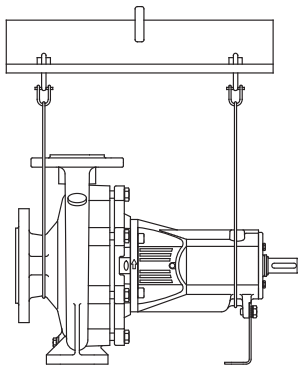
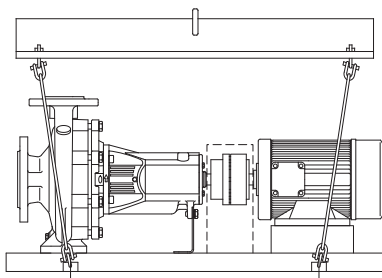

Fig. 1: Transporting the pump
Fig. 2: Transportation of the complete unit
- To avoid deformations, lift up the pump accordingly (Fig. 1) or (Fig. 2). The lifting lugs attached to the pump or motor must not be used to lift the entire unit. They are only meant for transporting the individual components during installation or dismantling.